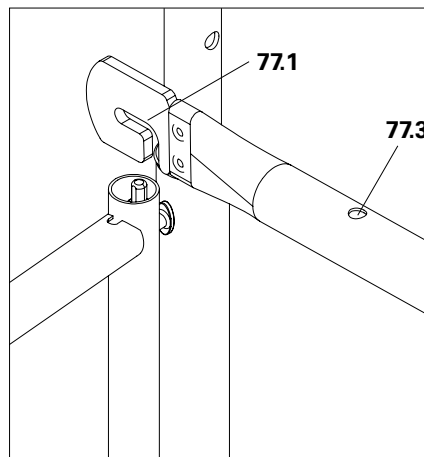

Fig. A3.01a
1. Attach the Stair Guardrail EAG with labyrinth (**77.1**) to the upper guardrail hook and pull it up to the stop. (Fig. A3.01a + A3.01b)